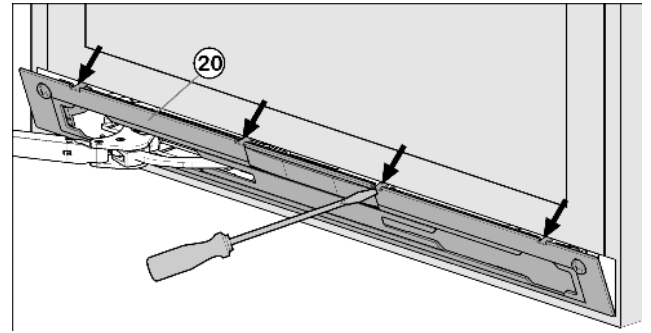

Fig. 10
- ▶ Release panel Fig. 10 (20) using a slotted screwdriver and remove.